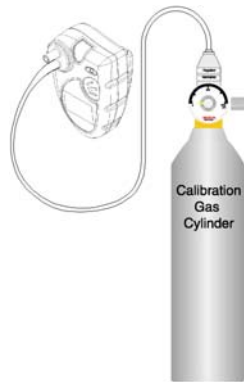

Figure 3.4:
4. Apply the calibration gas as shown in figure 3.4.
2. Apply calibration gas as shown above in figure 3.4. Once calibration gas is detected, the readout will change to show the gas reading. Note that the negated horn symbol is shown at lower left to indicate that the alarms are not operating because the instrument is in calibration mode.
1. Apply “Zero Air” calibration gas to the instrument as shown above in figure 3.4 for at least 15 seconds or until the readings fully stabilize.